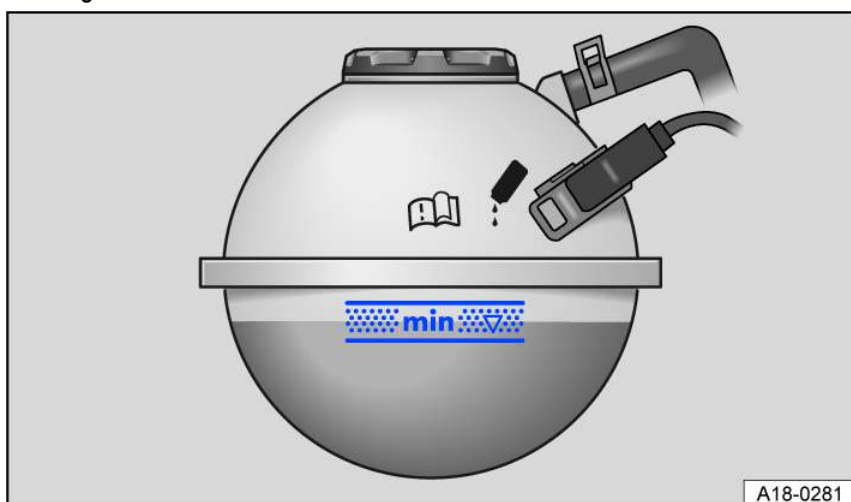

Fig. 143 In the engine compartment: markings on the engine coolant expansion tank.
1. When the engine is cold, check the coolant level using the markings on the side of the engine coolant expansion tank fig. 143. The coolant level must be between the markings.
After topping up the engine coolant, the coolant level must be between the markings on the coolant expansion tank fig. 143.